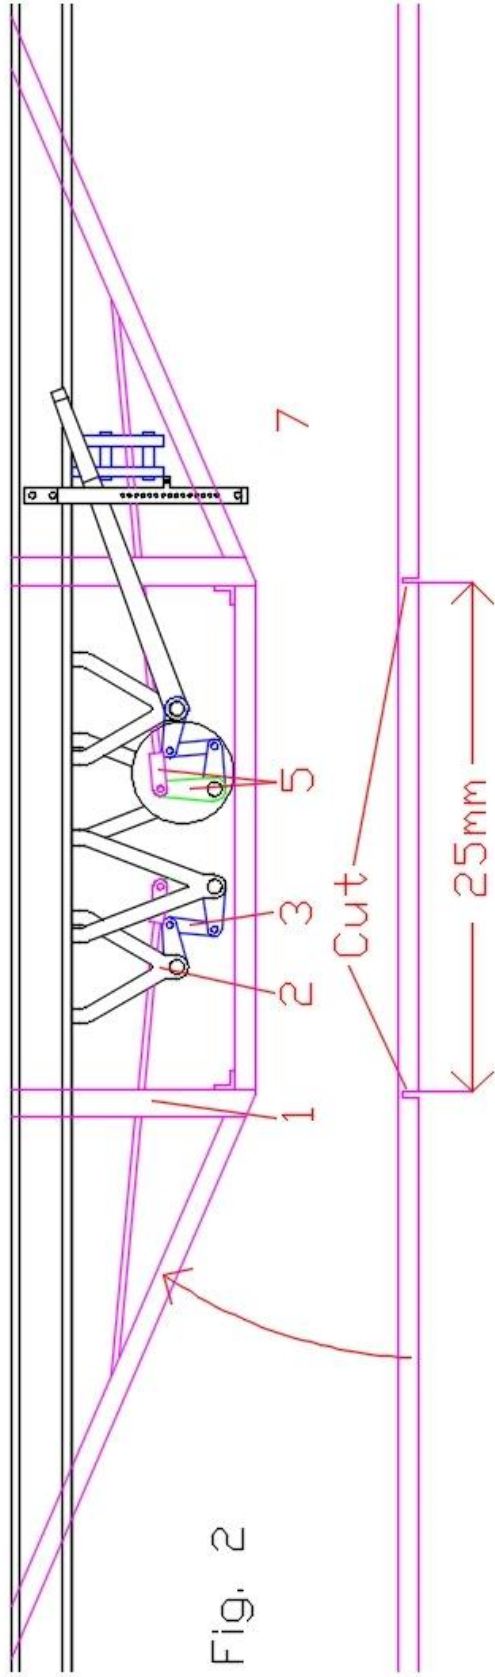

Fig. 2
3. Take two pieces of 1.2 x 1.2mm brass L section approximately 90mm long and make two cuts 25mm apart as shown in Fig. 2. These cuts should be equally spaced about the centre of the length of the L section. These pieces can then be bent at the cut points and placed one at a time behind the queen posts. Whilst the piercing saw is out cut two more lengths of brass L section a smidge under 27mm long and place to one side